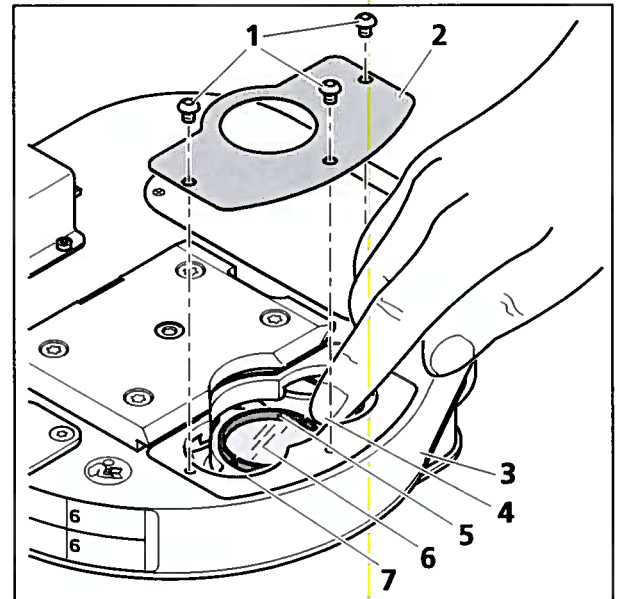
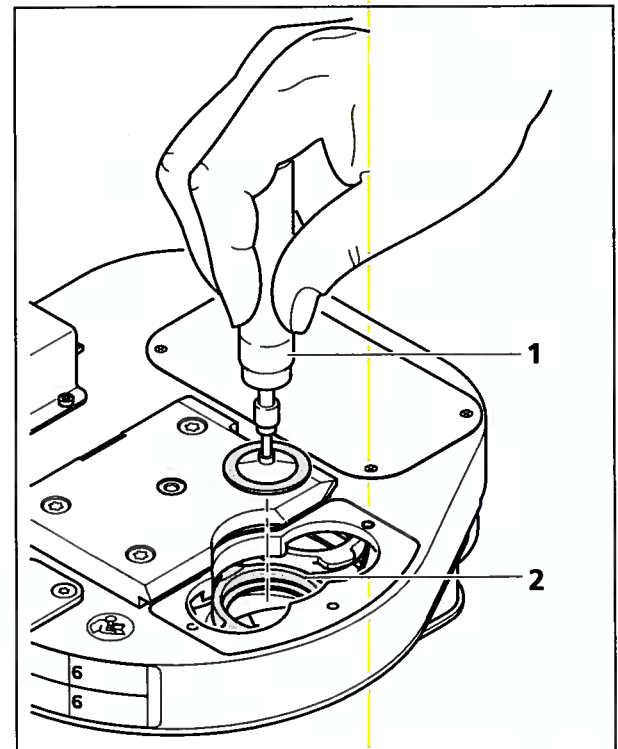

Fig. 6-16 Removing filters
Fig. 6-17 Inserting filters
- Remove the three screws (Fig. 6-16/1) from the housing.
- Remove the (Fig. 6-16/2) cover plate.
- Turn the emission filter wheel (Fig. 6-16/3) carefully until it is in the desired position below the installation opening (Fig. 6-16/7).
- Hold the wheel with a finger (Fig. 6-16/4) to stop it turning.
- Remove the retaining ring (Fig. 6-16/5) with mounting plate.
- Suction any existing filter (Fig. 6-16/6) with a filter lifter (Fig. 6-17/1) and remove it.
- Insert a new filter with filter lifter (Fig. 6-17/1) in the filter wheel position (Fig. 6-17/2). Ensure that the filter is seated precisely and not misaligned. The retaining ring cannot otherwise be screwed in completely.